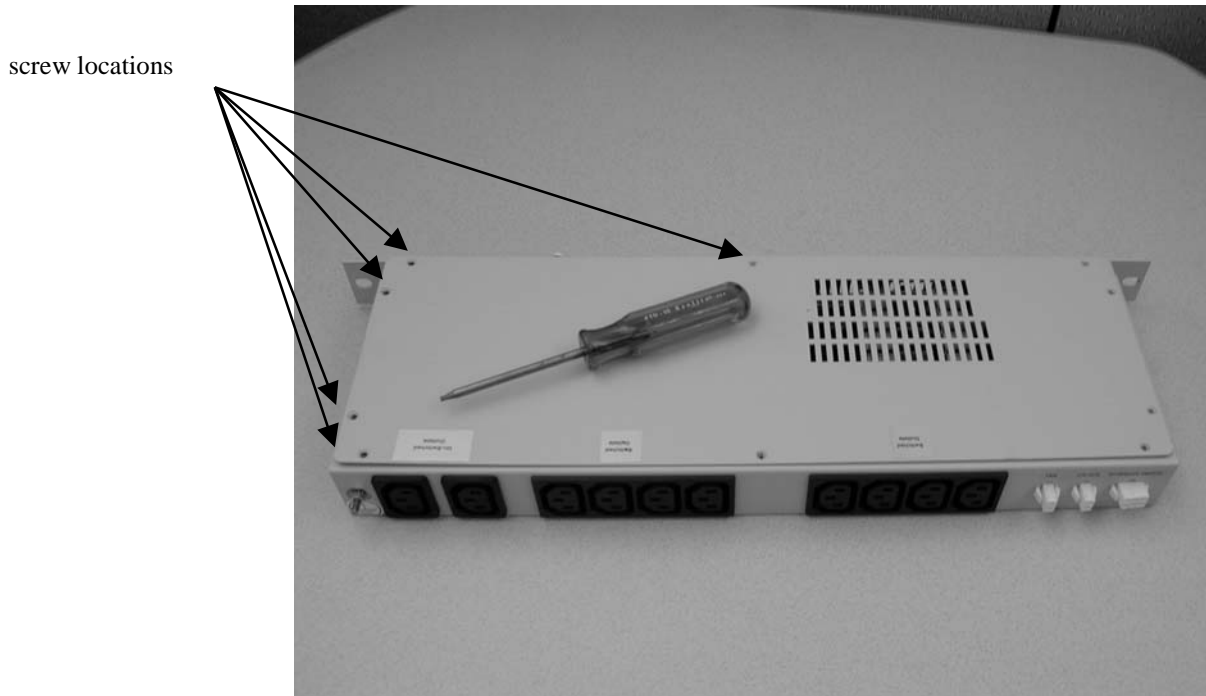

Figure 1. PDU removed from TS-5410 System.
- Open the top cover using a T10 Torx driver and removing the ten screws (Figure 1).